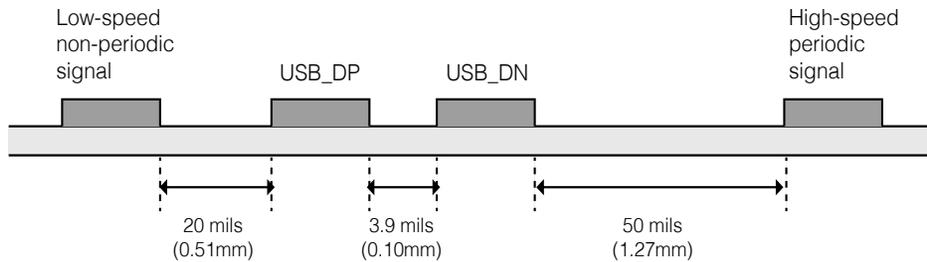

Figure 6: USB trace separation showing low speed signal, a differential pair and high-speed clock
- High-speed clock and periodic signal traces that run parallel should be at least 1.27mm away from USB\_DP/USB\_DN (see Figure 6).
- Low-speed and non-periodic signal traces that run parallel should be at least 0.5mm away from USB\_DP/USB\_DN (see Figure 6).